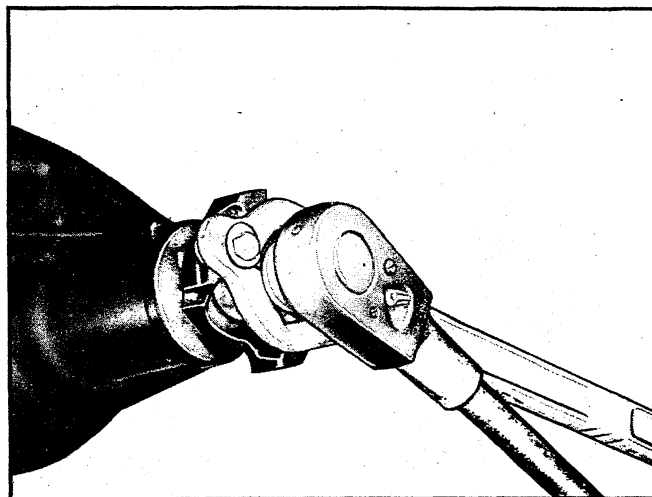

Fig. 83—Drive Pinion Nut Removal
5. Install Tool J-8614-1 on pinion flange and remove pinion flange nut and washer (fig. 83). (Position